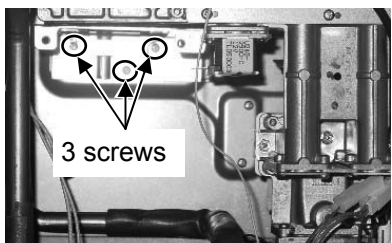

Figure 33
19. Remove 3 screws behind the fan. (Figure 33)
23. Install the new heat exchanger using 2 screws above the exhaust and 3 screws behind the fan. (Figures 33, 34)